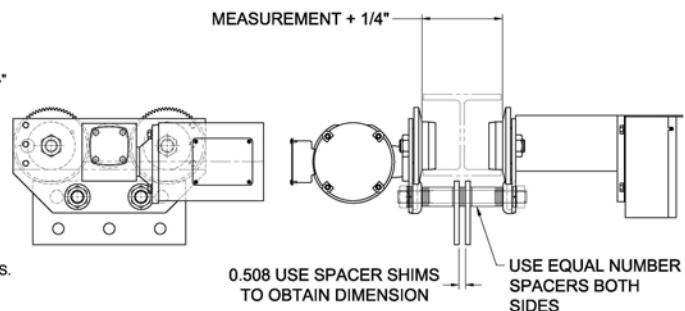

Figure 2
5. Assemble the Motorized Trolley (Item 7) as shown in Figure 2. Measure the I-Beam flange width to determine the trolley wheel spacing for the assembly. The 2” Spacers (Item 26), two of the Trolley Connection Plates (Item 23), and the hardware supplied in the Motorized Trolley box will be required for this assembly. Install four thin shims from the trolley hardware onto each of the 1” diameter shaft pins. Install a trolley connection plate on each side of the shims. Measure the gap between the two trolley connection plates. This gap should be between 0.504” and 0.510”. Adjust shims if necessary to obtain the proper gap.